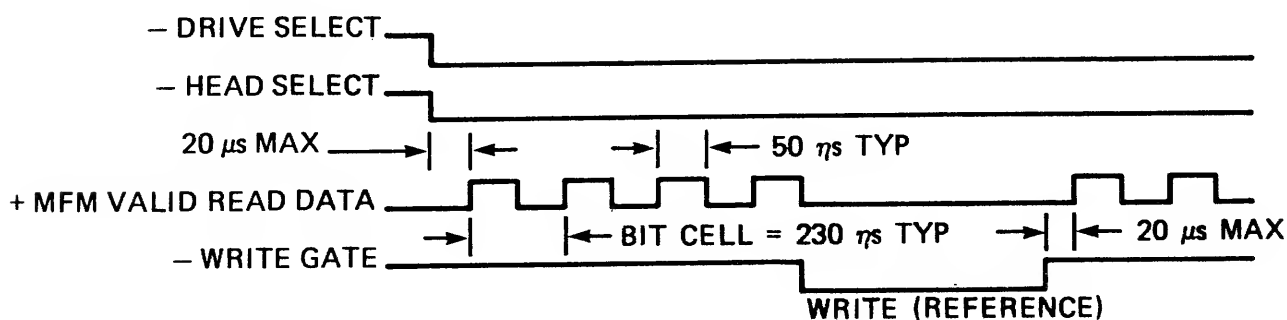

FIGURE 3-11
- MFM READ DATA - Provided there is a HI level on the WRITE GATE control line the transition of the +MFM READ DATA line more positive than the -MFM READ DATA line indicates a flux reversal was detected on the track. Figure 3-11 shows the read data timing.